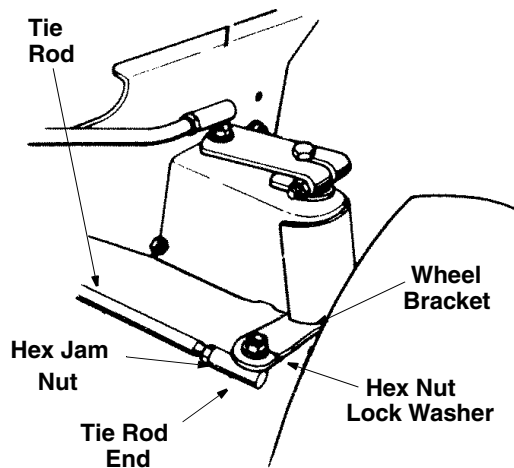

Figure 26
- Remove the hex nut and lock washer, and drop the end of the tie rod from the axle bracket. See Figure 26.